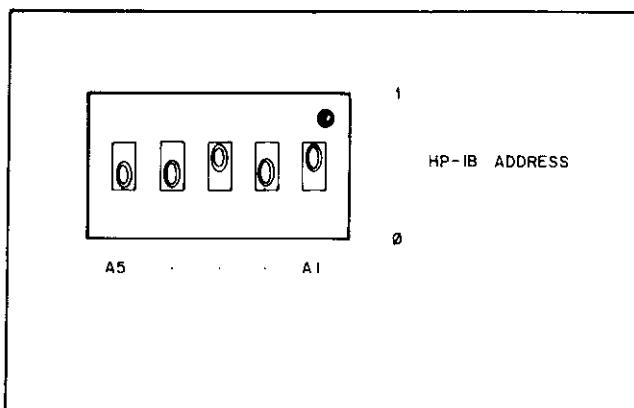

Figure 3-12. HP-IB Address Switches
**3-101** The HP-IB address switches are located on the rear panel. Figure 3-12 shows the factory-set address of "5" (binary 00101). Any address from 00 through 30 (decimal) is a valid HP-IB address. The 6034A will operate on whatever address is set on the address switches.